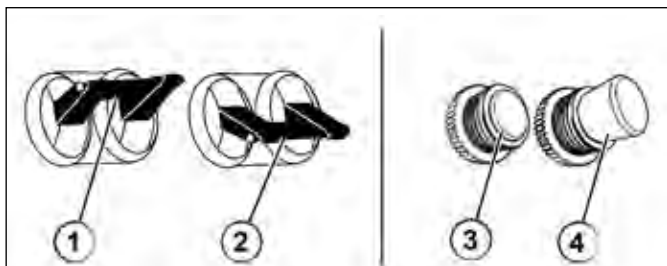

Figure 7 - Breakers
2. Make sure the circuit breakers are properly set (see Figure 7 below).